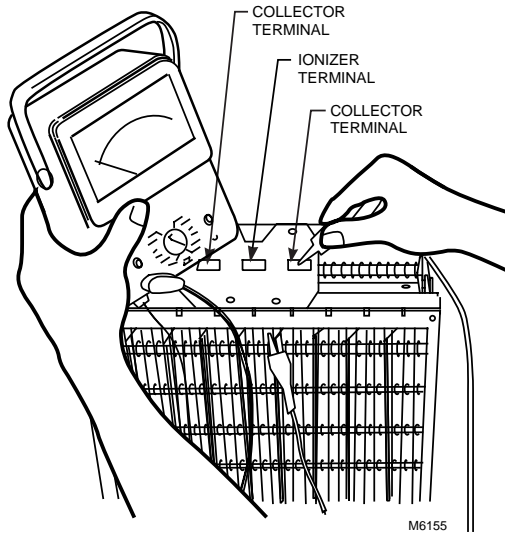

Fig. 9. Using ohmmeter to check electronic cells for short circuits.
3. Check the cell for short circuits using an ohmmeter. Check the resistance between cell frame and both the ionizer and the collector contacts. Verify the resistance is infinite for each. See Fig. 9